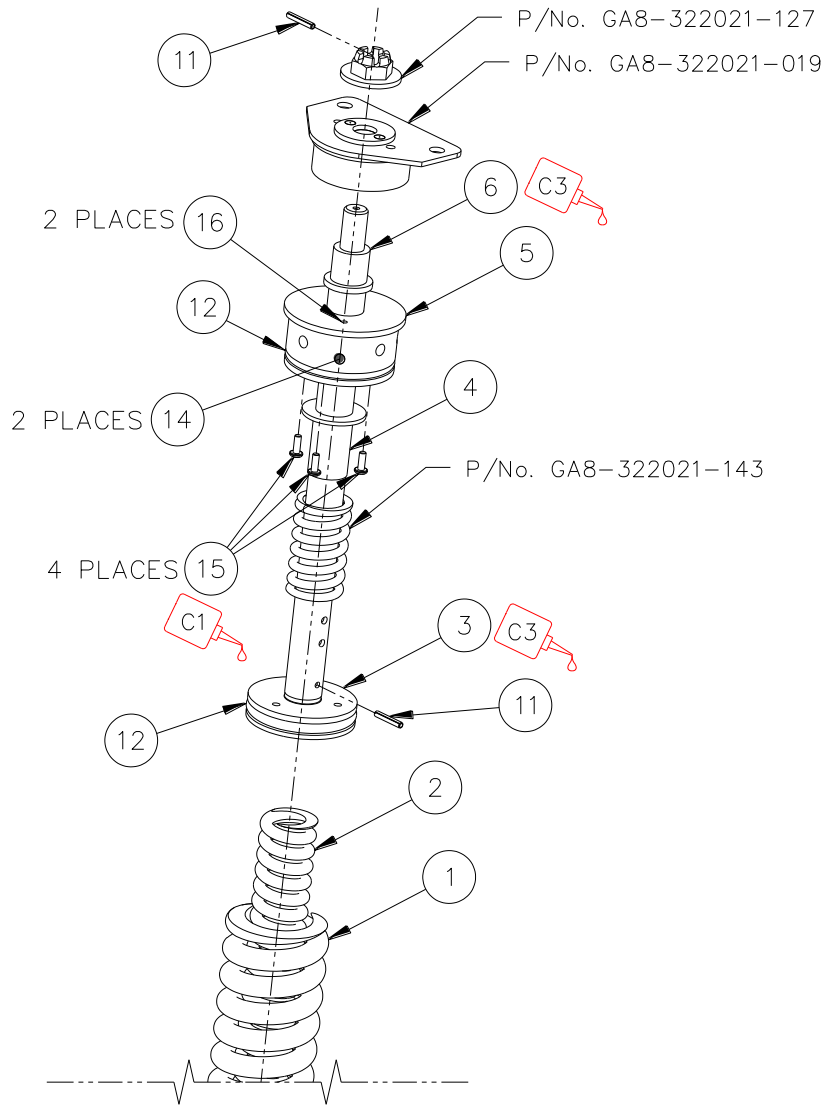

Figure 2: Plunger Assembly Detail
10. Lubricate the Piston Rod Assembly (Item 6) with hydraulic fluid (C3 of Table 6) and fit to the Top Cap (Item 5) and Damper Sleeve (Item 4) as shown in Figure 2.
12. Apply a small amount of thread locker (C1 of Table 6) to the Screws (Item 15) and attach the Damper Sleeve (Item 4) to the Top Cap (Item 5) as shown in Figure 2. If a faster cure is required, activator/primer (C2 of Table 6) may be used; refer to manufacturer's data for use.